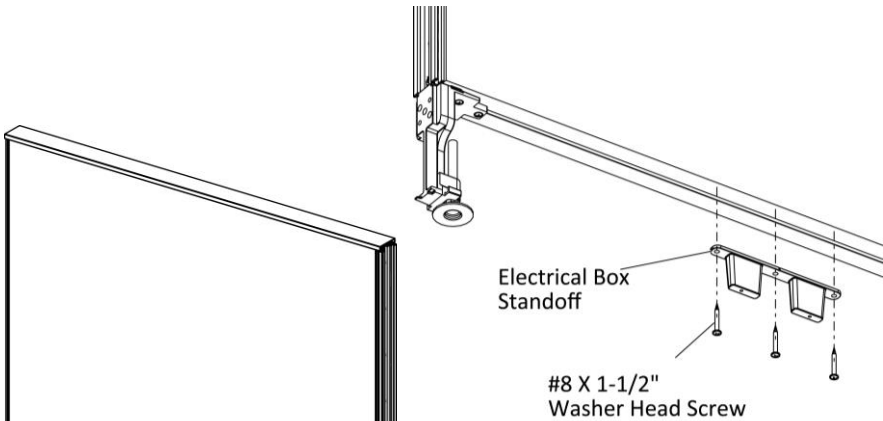

Figure 1
1. Center the electrical box standoff holder at the bottom of the panel, (Figure 1).